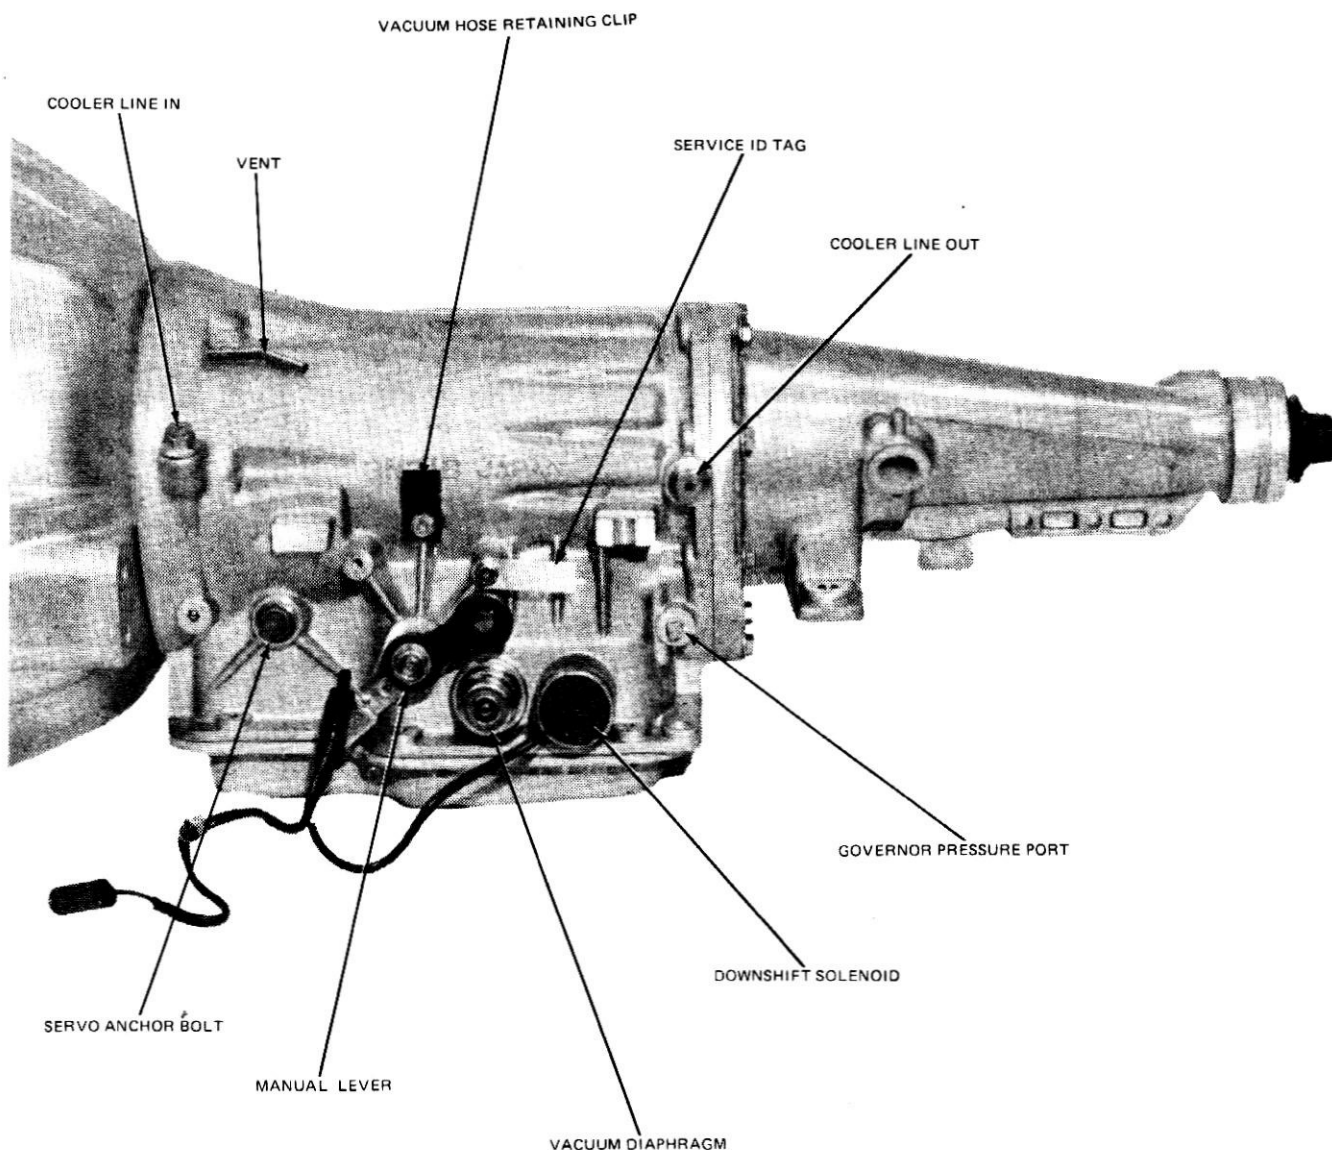

FIG. 6 L.H. Exterior View—JATCO Transmission
5. Unscrew the downshift solenoid (Fig. 6) and vacuum diaphragm unit and remove the vacuum diaphragm rod from the case.